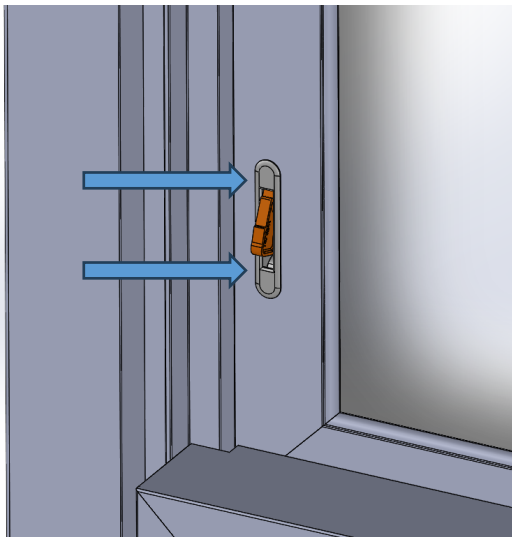

Figure 4
6. After confirming the device orientation, firmly press each device into the fabricated holes until they are fully engaged as shown in Figure 4. The snap legs are designed to accommodate a variety of vinyl wall thicknesses.
1. Fully close the sash. Once closed to a point where it no longer contacts the window opening control devices, they will automatically reset, and the latches will be fully extended as shown in Figure 4.